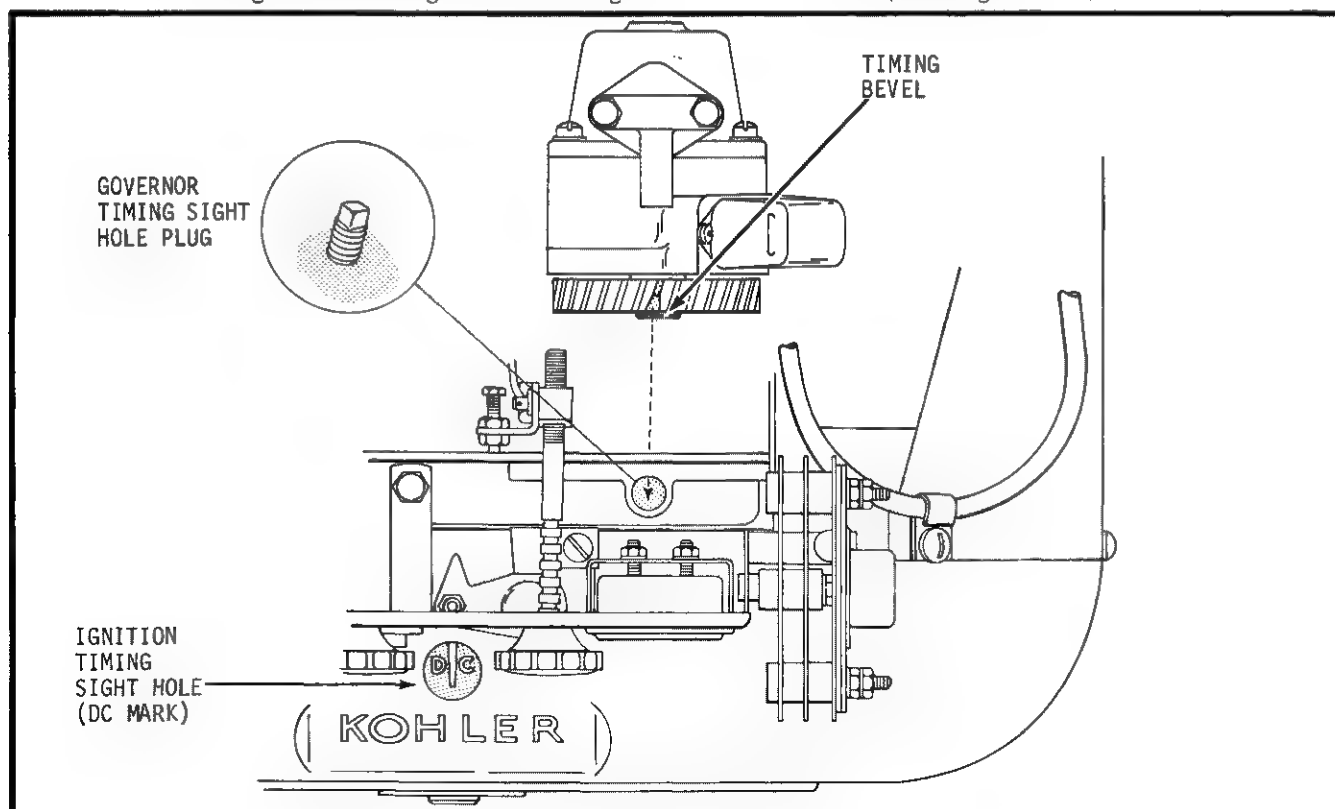

FIGURE 5-1 -- TIMING K482, K532 GOVERNOR TO ENGINE
2. Turn engine over until Top Dead Center (DC) mark on flywheel is centered in ignition timing sight hole.
3. One of the teeth on the governor gear has a special timing bevel or deep chamfer--turn gear so that this tooth is in the approximate 12 o'clock position or where it can be observed in the gear cover sight hole after governor is installed (See Figure 5-1).